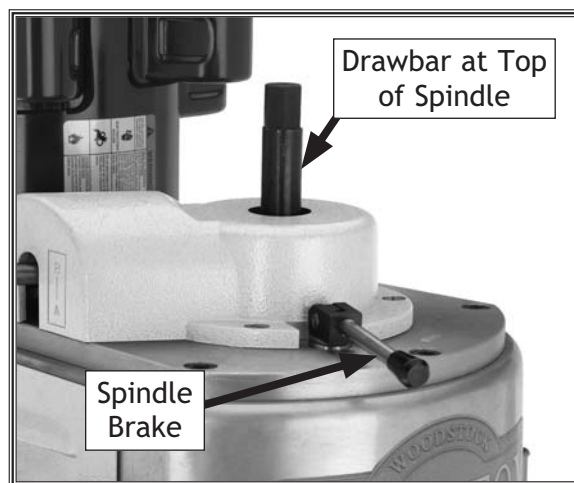

Figure 46. Spindle drawbar.
5. Lock the spindle with the spindle brake and use a wrench to tighten the drawbar (see **Figure 46**) until the tool is secure in the spindle.